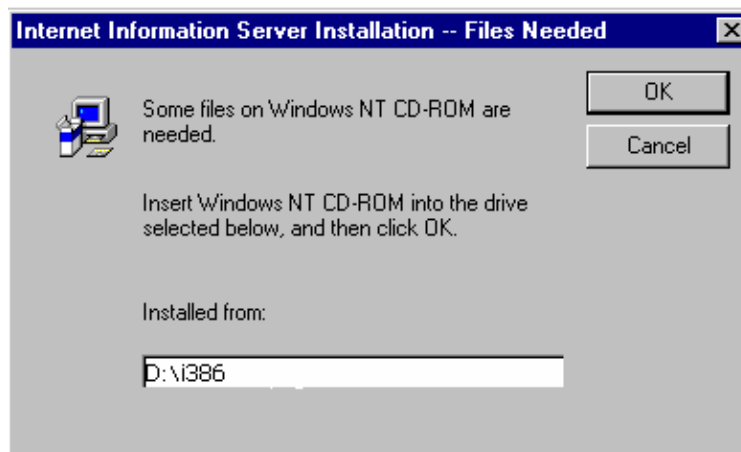

Figure 2.2. Internet Information Server Installation Dialog Box
3. The **Internet Information Server Installation** dialog box will appear, as shown in **Figure 2.2**. This dialog box will inform you that additional files are needed for installation. In the **Installed from** field, type in the drive on which your computer runs CD-ROMs, plus ":\i386"; or click on the **Browse** button to locate the **i386** folder on your CD-ROM drive. After locating the **i386** folder, click on it to have it appear in the **Installed from** field. Insert the Windows NT CD-ROM and click on the **OK** button on the **Internet Information Server Installation** dialog box.